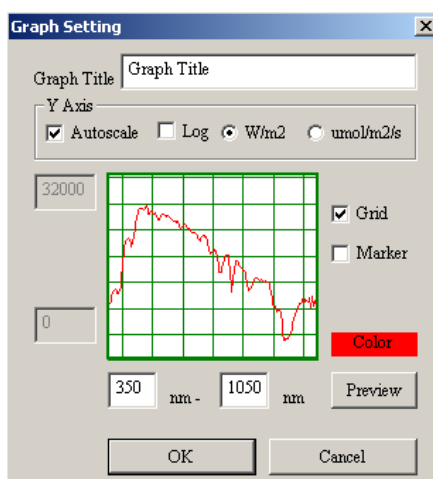

Figure 6-16. Graph settings
(2) Graph
Graph settings are adjustable according to Figure 6-16. Graph settings window. Graph title, Horizontal (X) and Vertical (Y) axis, Showing grid, line colors and markers on/off are selectable.